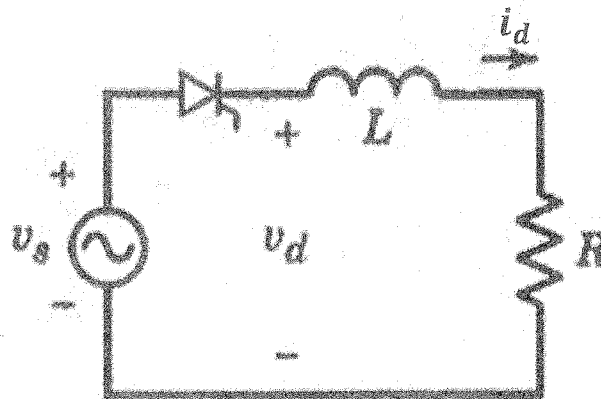

Figure Q1a
- Q1 a) A basic thyristor converter circuit with RL load is shown in Figure Q1a. The ac source voltage $v_s = \sqrt{2} V_s \sin \omega t$. The delay angle of the thyristor is α ($0^\circ < \alpha < 180^\circ$). Assume that the thyristor in the circuit has the ideal characteristics.
- iii) Modify the circuit in Figure Q1a in order to remove the negative voltages appear across the load.